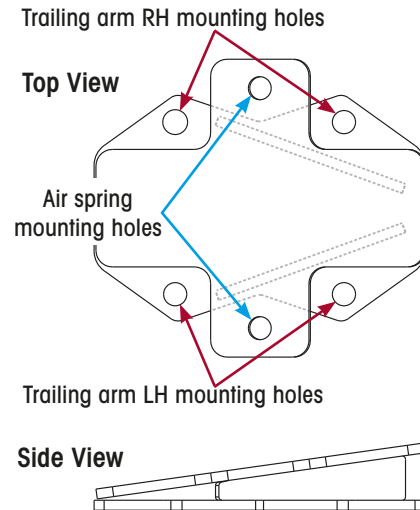

Figure 3 – Wedge Spacer
5. Rotate the piston relative to the air spring so that the piston to trailing arm mounting holes align with the wedge spacer air spring mounting holes. These are the holes on the top surface of the wedge. Refer **Figure 3**.